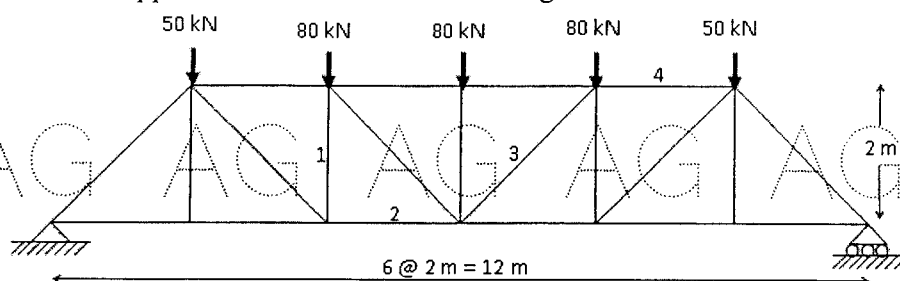

Figure: 7
5. Using the method of sections, determine the forces in the members 1, 2, 3 and 4 of a plane truss supported and loaded as shown in figure 7. [10]